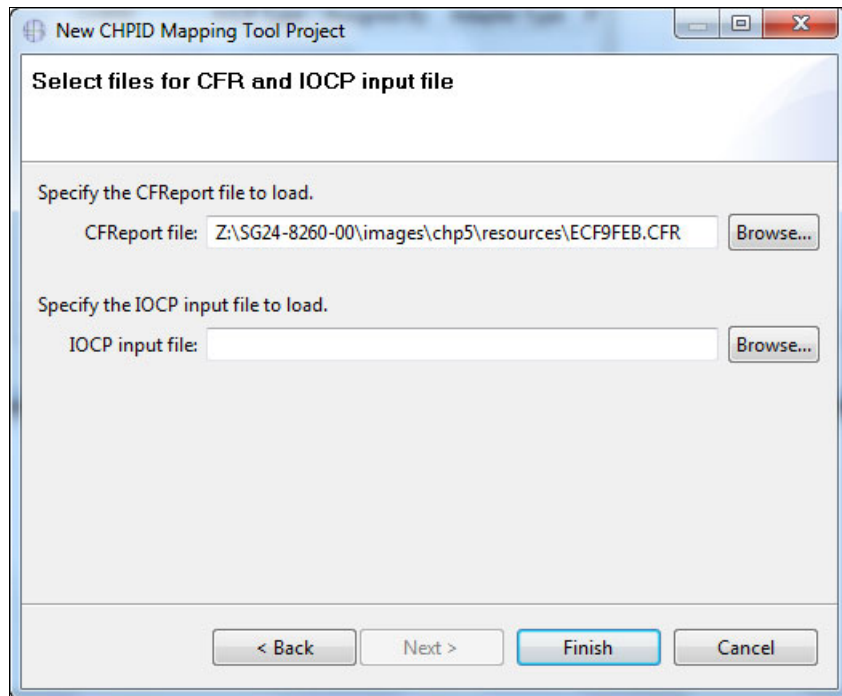

Figure 5-63 CMT - Specifying the CFReport file
4. Import the CFReport file into the CHPID Mapping Tool by specifying the name in the CFReport file field, and then click **Finish** (Figure 5-63).